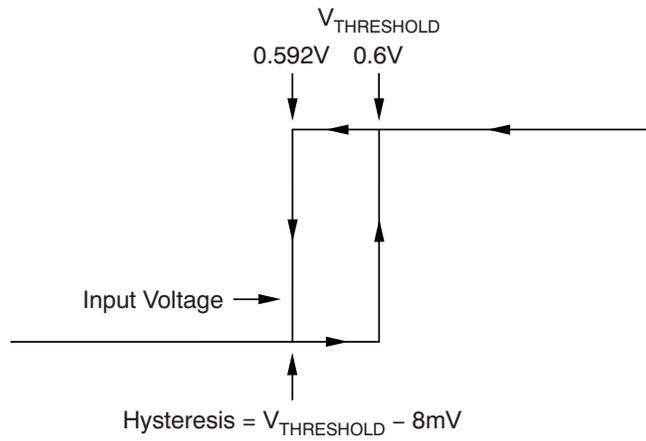

图 1. Typical Comparator Hysteresis
- (1) Hysteresis refers to the threshold (the threshold specification applies to a rising edge of a noninverting input) of a falling edge on the noninverting input of the comparator; refer to Fig. 1.
- (2) Specified by design.
- (3) V_{ID} refers to the differential voltage at the comparator inputs.
- (4) Open-drain output can be pulled to the range of 2.7 to 18 V, regardless of V_S .
- (5) The comparator response time specified is the interval between the input step function and the instant when the output crosses 1.4 V.
- (6) The RESET input has an internal 2 M Ω (typical) pull-down. Leaving RESET open results in a LOW state, with transparent comparator operation.